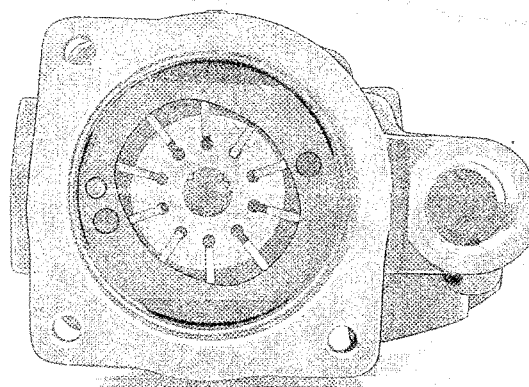
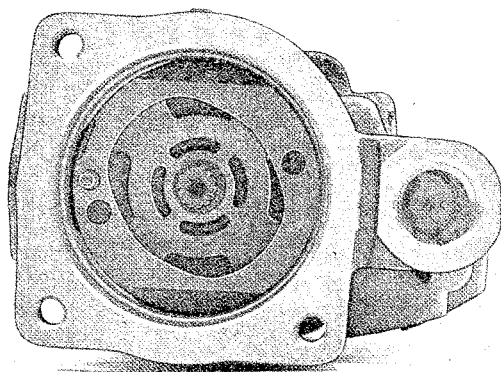

Fig. 6-101. Rotor blades installed
Fig. 6-100. Intermediate piece installed
7. Install the intermediate piece (Fig. 6-100): the small hole on the pin, both the other holes opposite the plate holes.
8. Install the O-ring (17) in position in the housing.
9. Install the rotor (25) with the smooth drill facing the drive side. Install the 10 blades (15) with the rounded surface outwards towards the intermediate piece (Fig. 6-101).